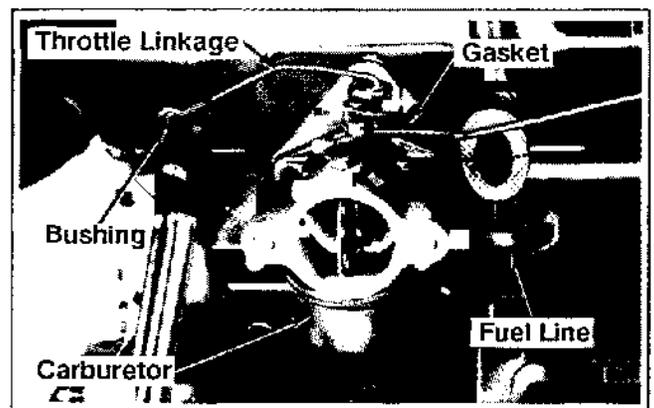

Figure 9-17. Removing Carburetor.
1. Remove fuel line from carburetor inlet fitting. See Figure 9-17.